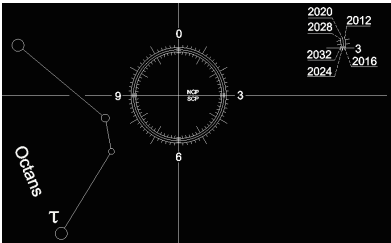

Fig 29
3. At this point, the "6" in the reticle should point straight down (as shown in Fig. 29). If not so, please refer to "**Appendix I: Calibrate the Polar Scope**"